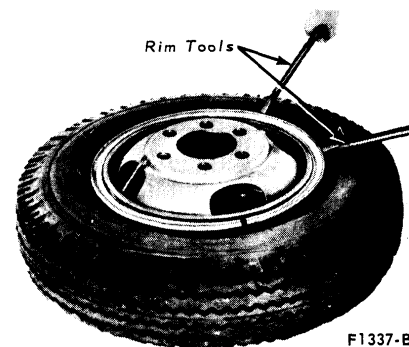

FIG. 5 Loosening Tire Bead
2. Break the tire bead free from the rim, being careful not to damage the bead (Fig. 5).